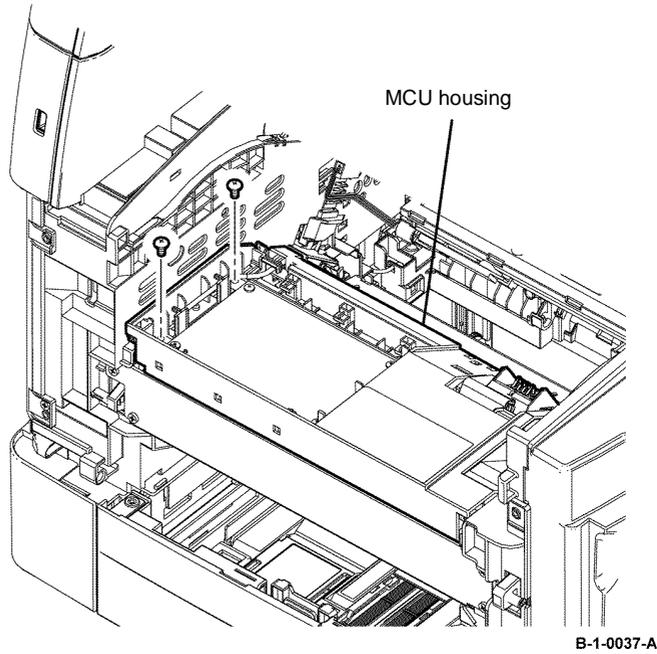

Figure 1 MCU housing removal
10. Remove two screws (silver, M3, 6mm) that fix the MCU housing, release the hook, then remove the MCU housing from the printer, Figure 1.